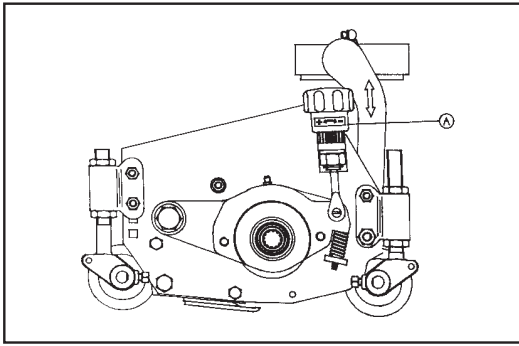

Fig. 3
CUTTING CYLINDER TO BOTTOM BLADE ADJUSTMENT (FIG.3)
1. To adjust the cylinder to the bottom blade lift and turn alternately left and right hand handwheels (A Fig.3). (clockwise to put on cut anticlockwise to take off cut) and release, keep turning the handwheel until it locates in the serrated locking ring. The adjuster is of the notched type and each notch is moving the cylinder in increments of approximately 0.04mm (0.0015in).